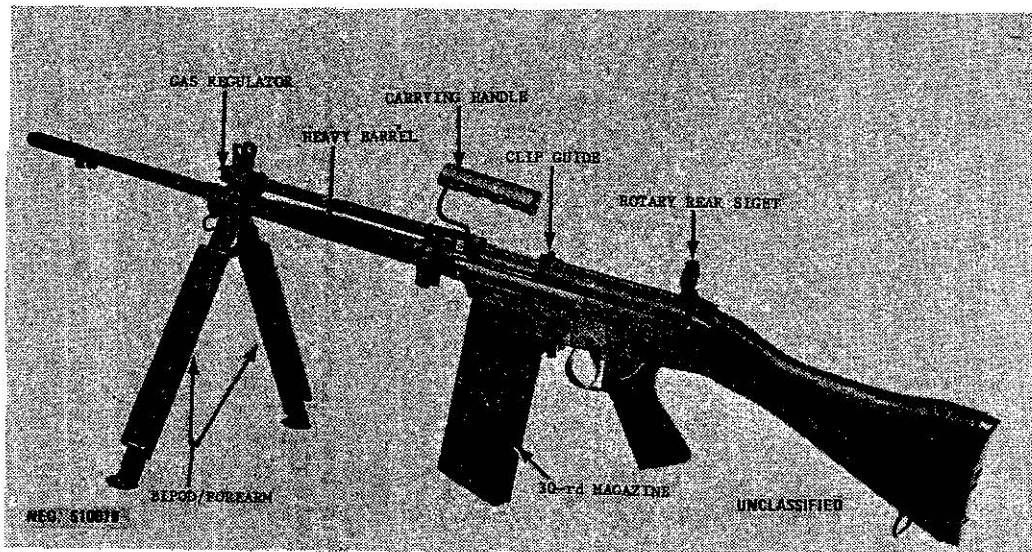

Figure 80. Canadian C2A1 automatic rifle.
d. When equipped with a sturdy bipod and a heavy barrel, the FAL (FALO) is used as an automatic rifle or light machinegun. The Canadian C2A1 (fig 80) and the FAL automatic rifles (fig 81) and 82) are examples of such weapons. The instructions given for the regular FN/FAL rifle are also applicable to these automatic rifles. All FN/FAL rifles fire the 7.62x51-mm NATO cartridges (sec V).